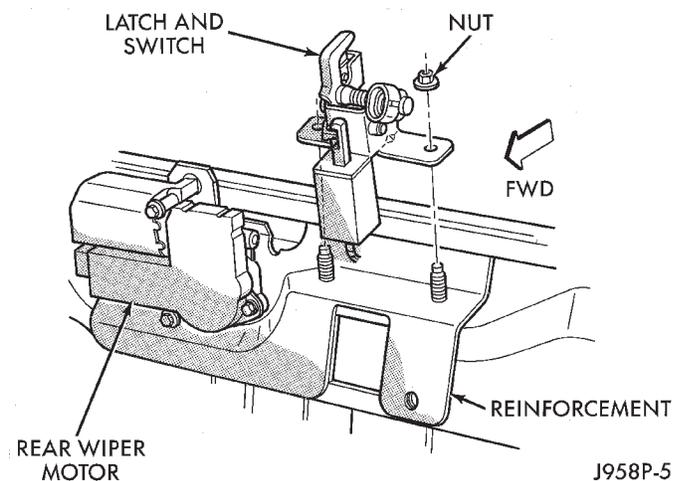

Fig. 14 Liftglass Ajar Switch Remove/Install
(5) Remove the lower liftgate trim panel from the vehicle.
(6) Remove the two nuts that secure the liftglass latch to the liftgate inner panel (Fig. 14).
(7) Unplug the wire harness connectors for the liftglass latch solenoid and the liftglass ajar switch.
(8) Remove the liftglass latch from the liftgate.
(9) Reverse the removal procedures to install. Tighten the latch mounting nuts to 11 N·m (100 in. lbs.). Tighten the trim panel mounting screws to 2.2 N·m (20 in. lbs.).